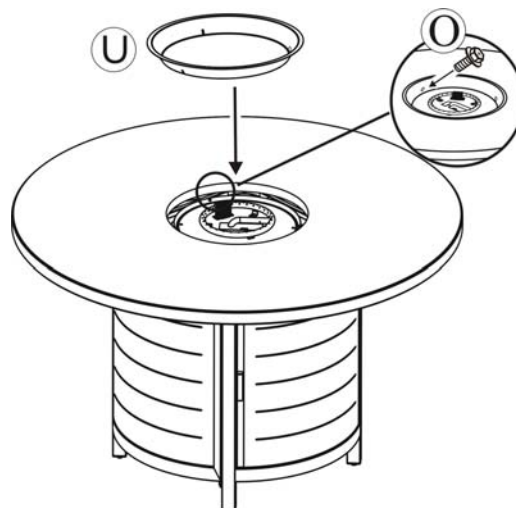

Figure 7
7. Place the burner pan protective ring into the firepan / burner assembly as shown in Figure 7. Align the holes in the burner pan protective ring with the pre-drilled holes on the firepan / burner assembly. Tighten by using the three M4 screws as shown in Figure 7.